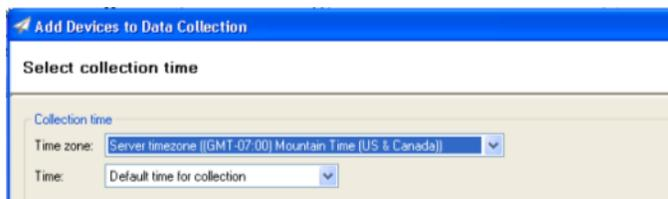

Figure 7: Select collection time page
2. Click **Add Devices**. The **Select collection time** page opens (Figure 7).